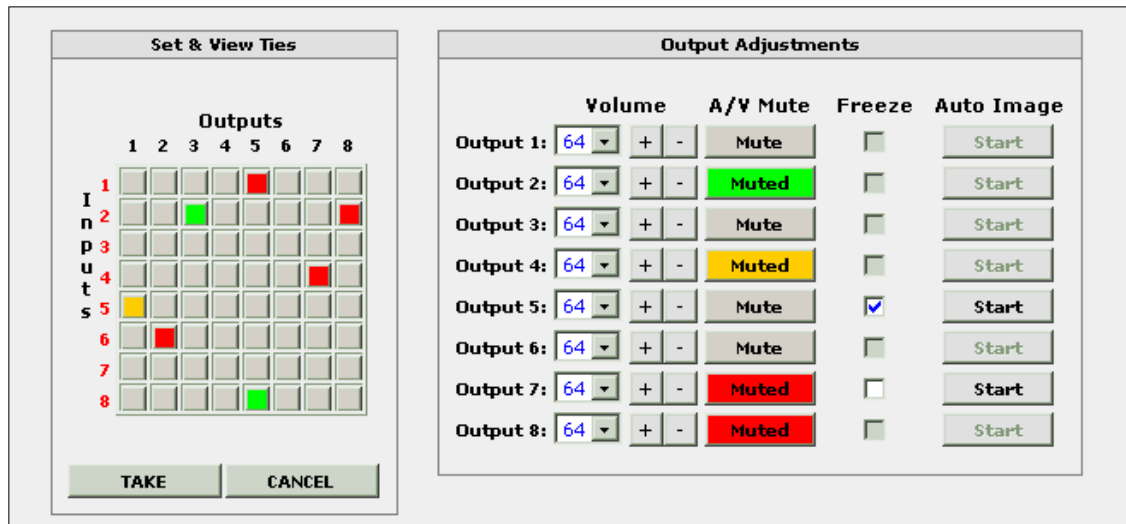

Figure 6-13 — A/V mute buttons status according to signal type
2. Click **Mute** for the output to be muted. The gray button changes color according to the muted signal (see Note and figure 6-13), and shows “muted”. The page refreshes and the ISM 824 updates with the selection.